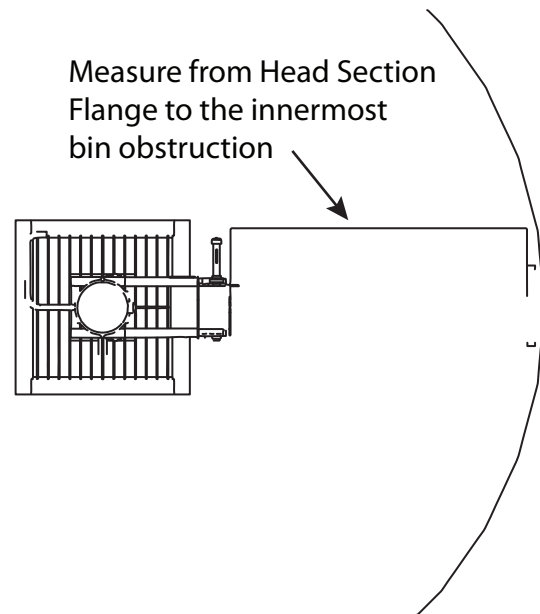

Figure 4-14: Bin Obstruction
3. Rotate the Head Section so that it is facing the innermost obstruction inside the bin. See Figure 4-14.